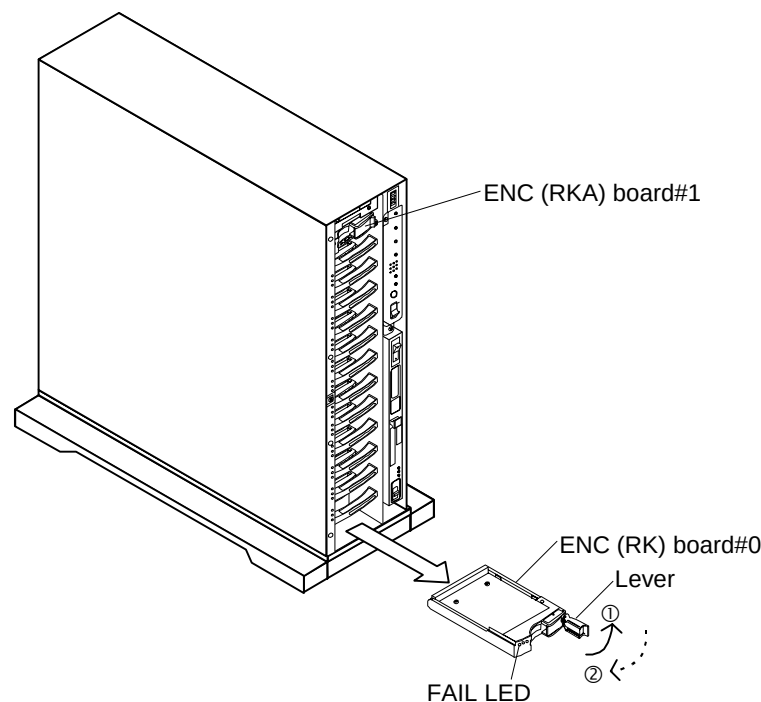

Figure 4.4.9 Replacing of ENC Board
(1) Procedure for replacement with the power turned on (See Figure 4.4.9.)